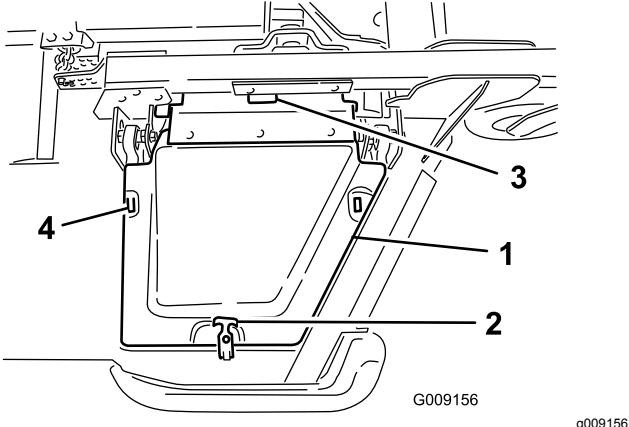

Figure 6
- 8. Install the winglet-deck cover and secure it with the rubber latch (Figure 6).